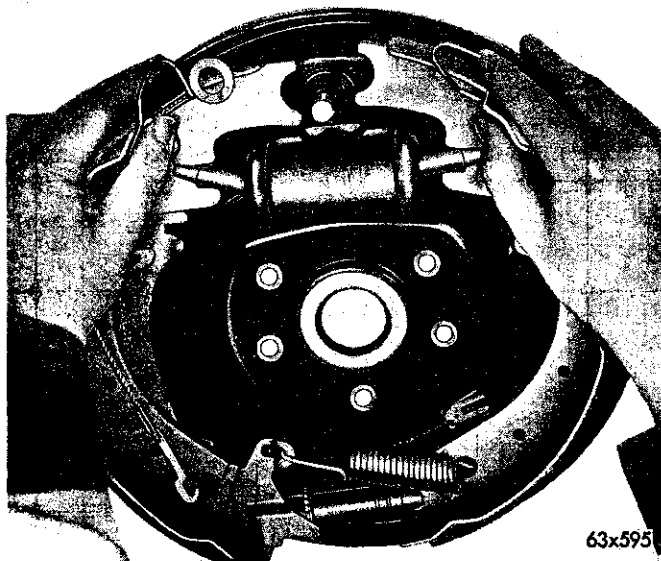

Fig. 6—Installing Brake Assembly to Support Plate
(3) Overlap the anchor ends of the primary and the secondary brake shoes and install the adjusting spring and lever.
(4) Spread the anchor ends of the brake shoes to maintain the adjusting lever and spring in position.
(5) Holding the brake shoes in their relative position, place the brake shoe assembly on the backing plate and over the anchor pin (Fig. 6).
(6) Install the retainer rods, cups, springs and retainers.
(7) Install the anchor pin plate.
(8) Install the cable guide in the secondary shoe and place the "eye" of the adjusting cable over the anchor pin.
(9) Using Tool C-3785 install the return spring into the primary shoe, and using Tool C-3785 position spring end over anchor.
(10) Install the secondary return spring in the same manner.
(11) Lubricate the groove of the cable guide and place the adjusting cable over the guide and engage the hook of the cable into the adjusting lever.
(12) Lubricate the wheel bearings and install the brake drum and adjust the wheel bearing.
(13) Adjust the brakes.